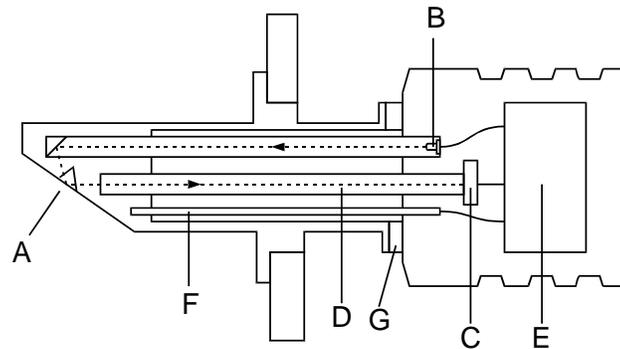

Figure 2.40 Sensor structure.
In the K-Patents Process Refractometer Sensor (Figure 2.40) the measurement prism (A) is flush mounted in the oblique surface near the tip. The light source (B) is a light emitting diode.